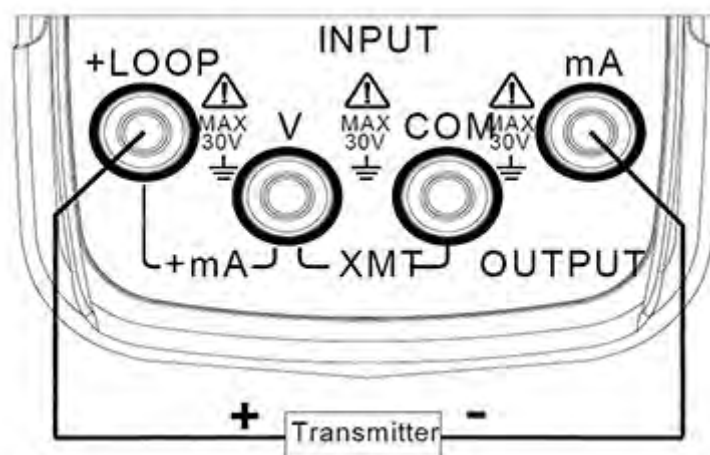

Figure 6-3
1. Insert the test lead into the +LOOP and mA input jacks (INPUT) of the EC mAV 2 as shown in Figure 6-3: